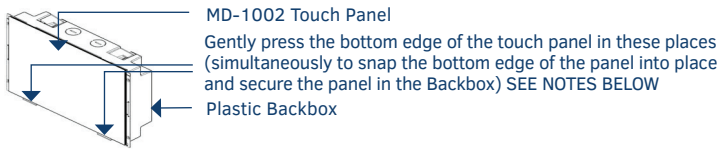

FIG. 5 SNAPPING THE BOTTOM EDGE OF THE PANEL INTO THE BACKBOX
2. Gently press the bottom edge of the panel gently but firmly and ONLY IN THE PLACES INDICATED BELOW until the tabs click into place to secure the panel (FIG. 5):